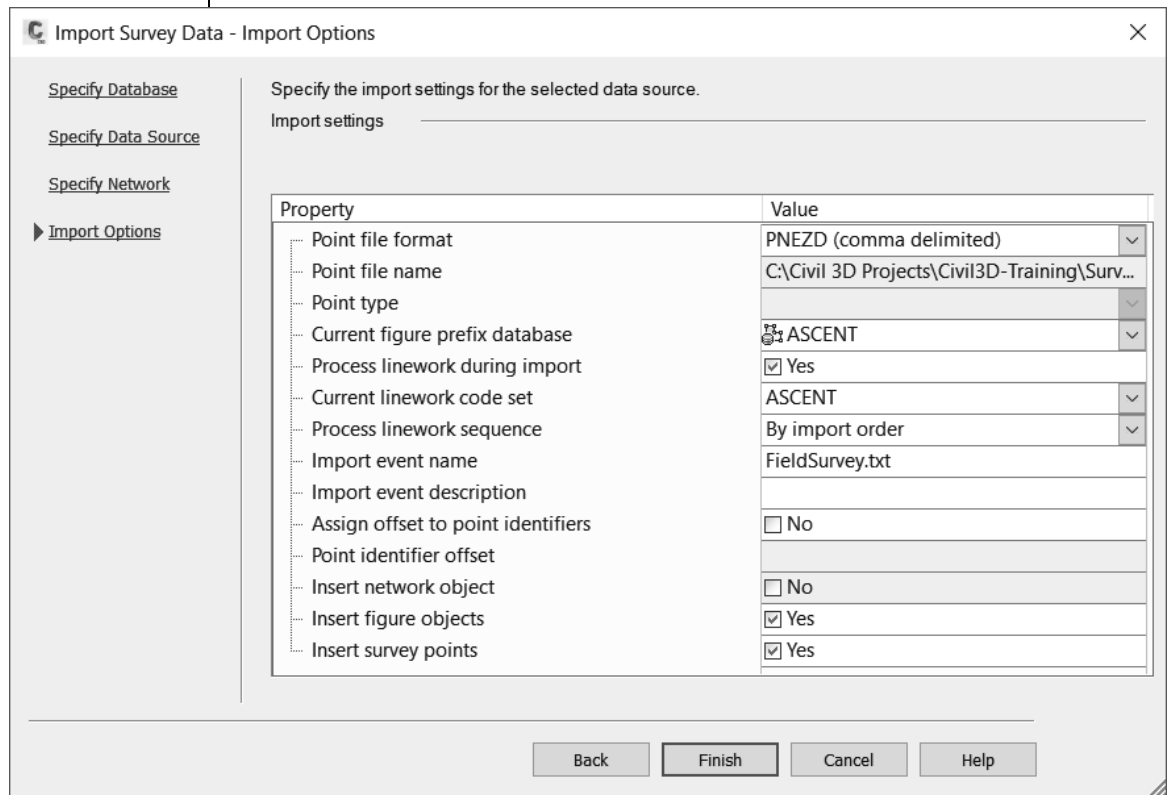

Figure 2–75
11. On the Import Options page, select **Process linework during import**, **Insert figure objects**, and **Insert survey points**, as shown in Figure 2–75. Click **Finish**.